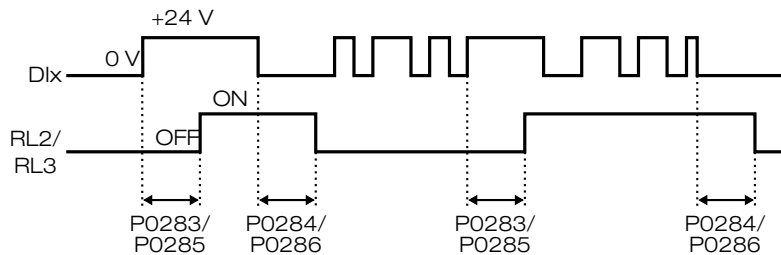

Figure 5.35: RL2 and RL3 timer function operation
- Refer to Table 5.45 on page 5-59, the Figure 5.33 on page 5-57 and Figure 5.35 on page 5-58 for further details regarding the functions of the digital inputs.
- **'RL2 and RL3 Timer'**: this function acts as a timer to activate and deactivate the relays 2 and 3 (RL2 and RL3). When the timer function for the relay 2 or 3 is programmed at any Dlx, and a transition from open to closed occurs, the programmed relay will be activated with the delay set in P0283 (RL2) or P0285 (RL3). When a transition from closed to open occurs, the programmed relay will be deactivated with the delay adjusted in P0284 (RL2) or P0286 (RL3). After the transition of the Dlx, either for activating or deactivating the programmed relay, it is necessary that the Dlx remains closed or open during at least the time set in P0283/P0285 and P0284/P0286. Otherwise, the timer will be reset. Refer to the Figure 5.35 on page 5-58. **Note:** In order to enable that function it is also necessary to program P0279 and/or P0280 = 29 (Timer).